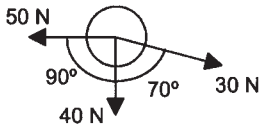

Figure 23.23 Problem 3
- 3 Determine the size and direction of the force needed to produce equilibrium for the force system shown in Figure 23.23.